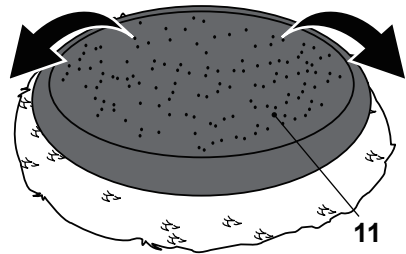

Fig. 4
- > Always remove any dirt or foreign object from the polishing bonnet (11) as well as from the backing disc (10) before attaching.
- > Fold down the outer rim polishing bonnet (11) (Fig. 4).